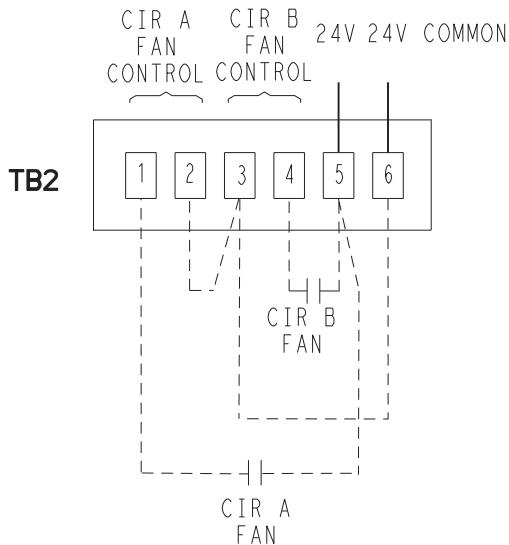

Fig. 30 — 09RC035-230 with 30HX Control Circuit Wiring
1. Install field-supplied jumpers between terminals 2, 3 and 6 of TB2. See Fig. 30.